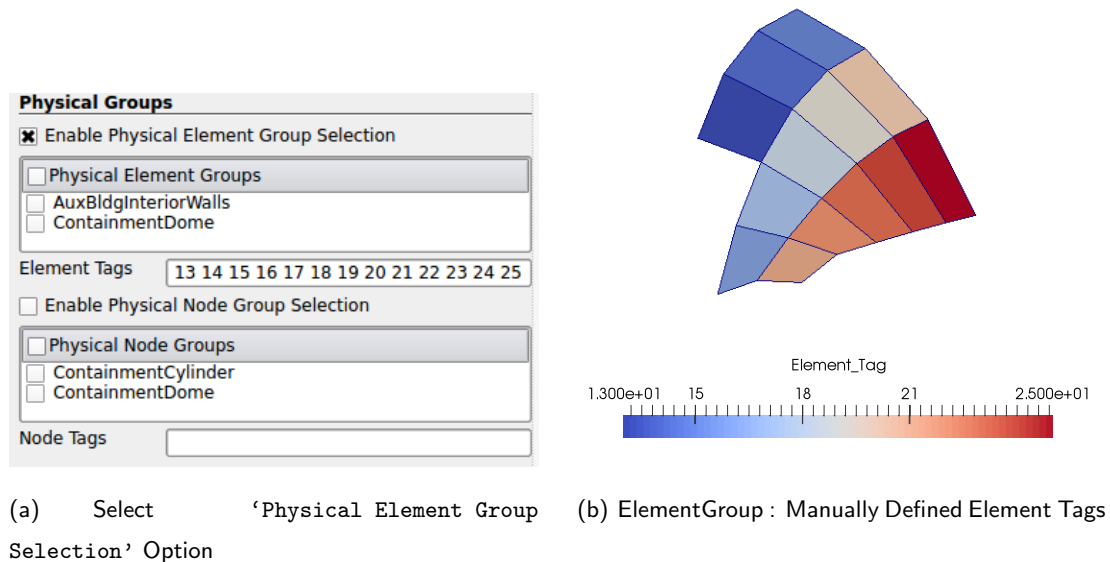

Figure 1.28: Visualization of physical element group manually defined using PVESSIRReader option.
3. **Element Tags** - This options provides user and interface to manually write element tags to be visualized. The user should enter the element tags against this option as a integer list separated by space. For example:- '2 10 12 13 16', where each of the number corresponds to the element tag defined in the model. Again, this option would only work if **Enable Physical Element Group Selection** option is checked. Figure 1.28 shows steps to visualize elements defined manually.